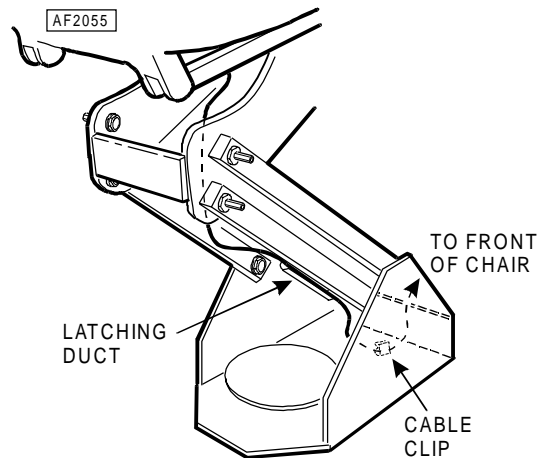

Figure 4
11. Run the cable through the chair and into the latching duct (See Figure 4).
12. Run the cable out the front of the chair, using the cable clips provided where necessary (See Figure 4).